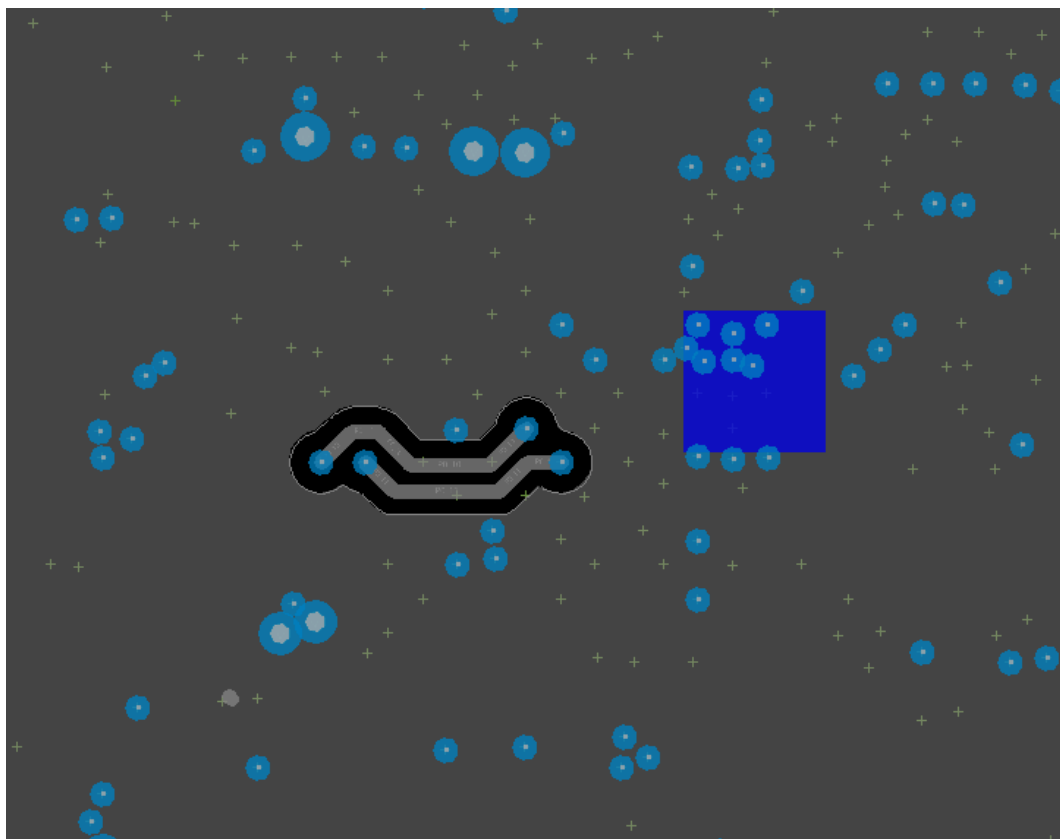

Figure 22. L4 bottom layer, RA6W1 – WLCSP
- L4 bottom layer is clear from traces as much possible. This layer is used as a GND shield for EMI purposes, see Figure 22.